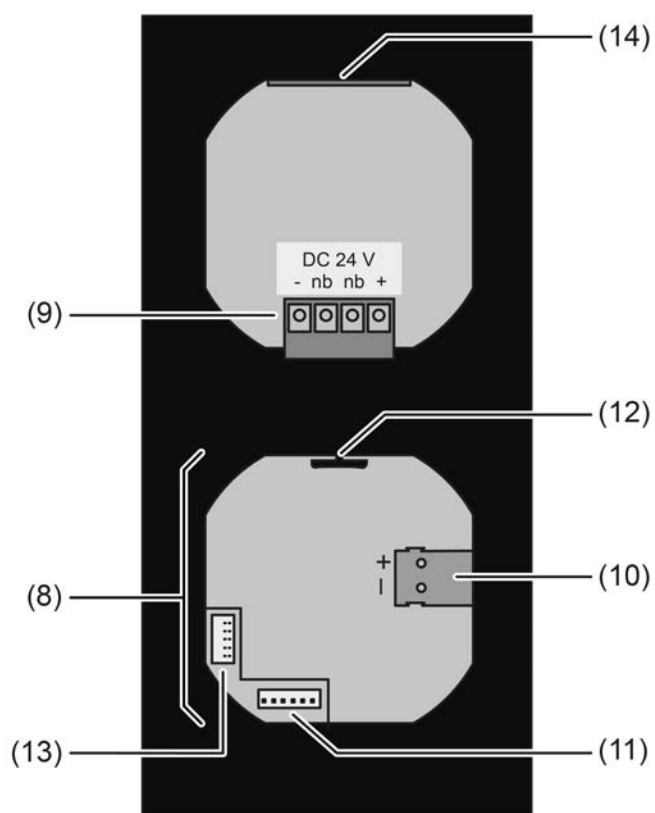

Figure 2: Device components at the back (with attached KNX communication module)
- Connect power supply to terminal (18) and insert into connection (9) (figure 2). Comply with the polarity!
- Guide the connection cable of the push-button extension module (25) between the supporting frame and frame.
- Fix push-button extension module (26) to supporting frame using the plastic screws (27) enclosed. Tighten the screws only lightly.
- Insert the pushbutton extension module connecting cable in correct position into the connection point of the communication module on the Smart Control (11) (figure 2). When doing so, ensure that the connecting cable is not pinched.